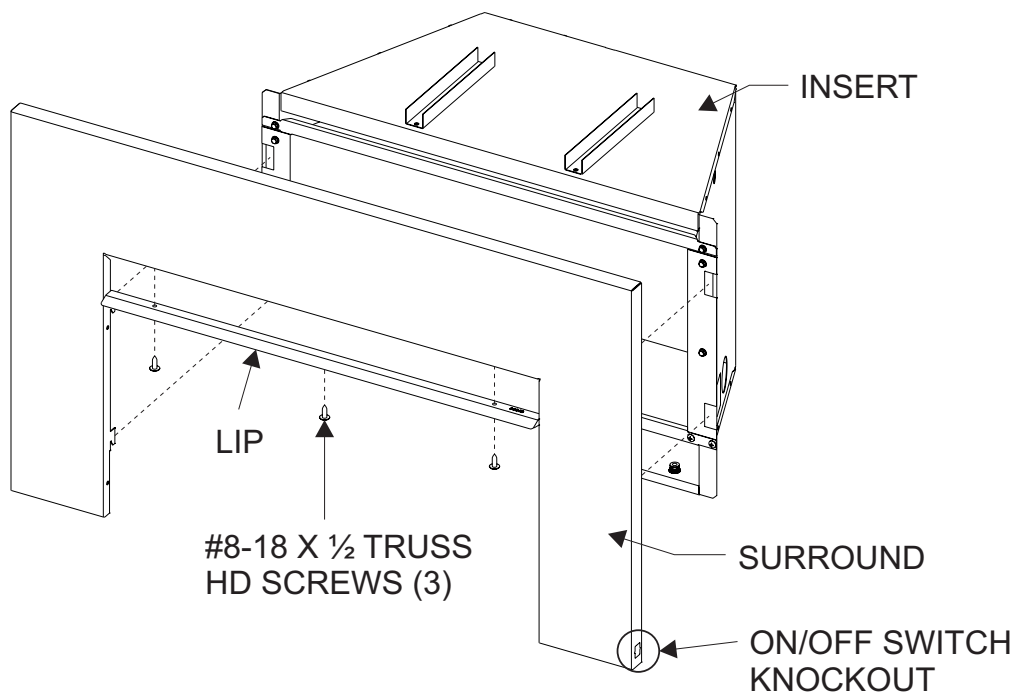

Figure 9
3. Align the mating holes and install three #8 X ½" Philips Truss Head screws to secure. **See Figure 9.**